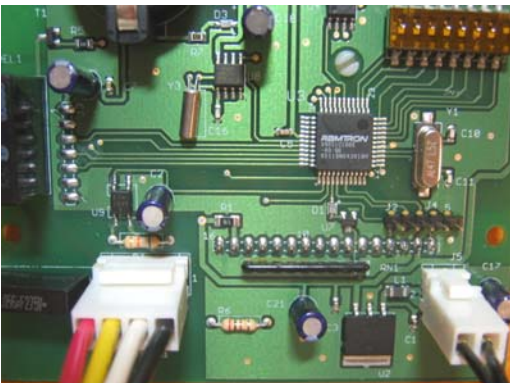

Figure 3.2.9
4. Connect the other two connectors to the CRC as shown in figure 3.2.9